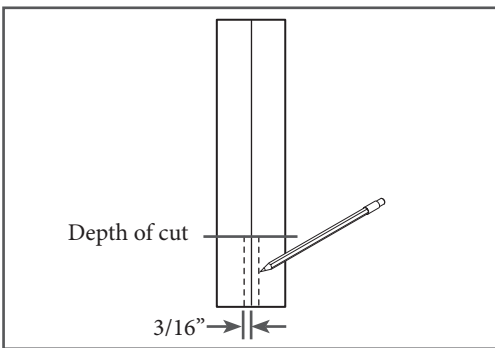

Figure 3
3. Draw two vertical lines, one on each side of the first line, 3/16" away from the first line (Figure 3). This will show the area to cut away with the table saw.